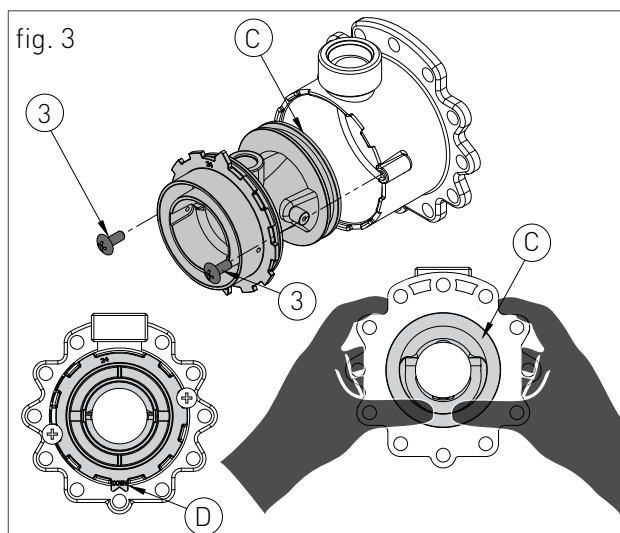

fig. 3
- › remove the two screws '3' (fig.3) and apply pressure on the rear side of venturi 'C' (fig.3);
- › replace the body venturi with the one suitable for the type of supply gas (cod. 30-00232 for Natural gas / cod. 30-00169 for Universal LPG / cod. 30-00167 for propaned air) and make sure the tooth 'D' (fig.3) is adjusted downwards on the aluminium ring nut (see fig.3);